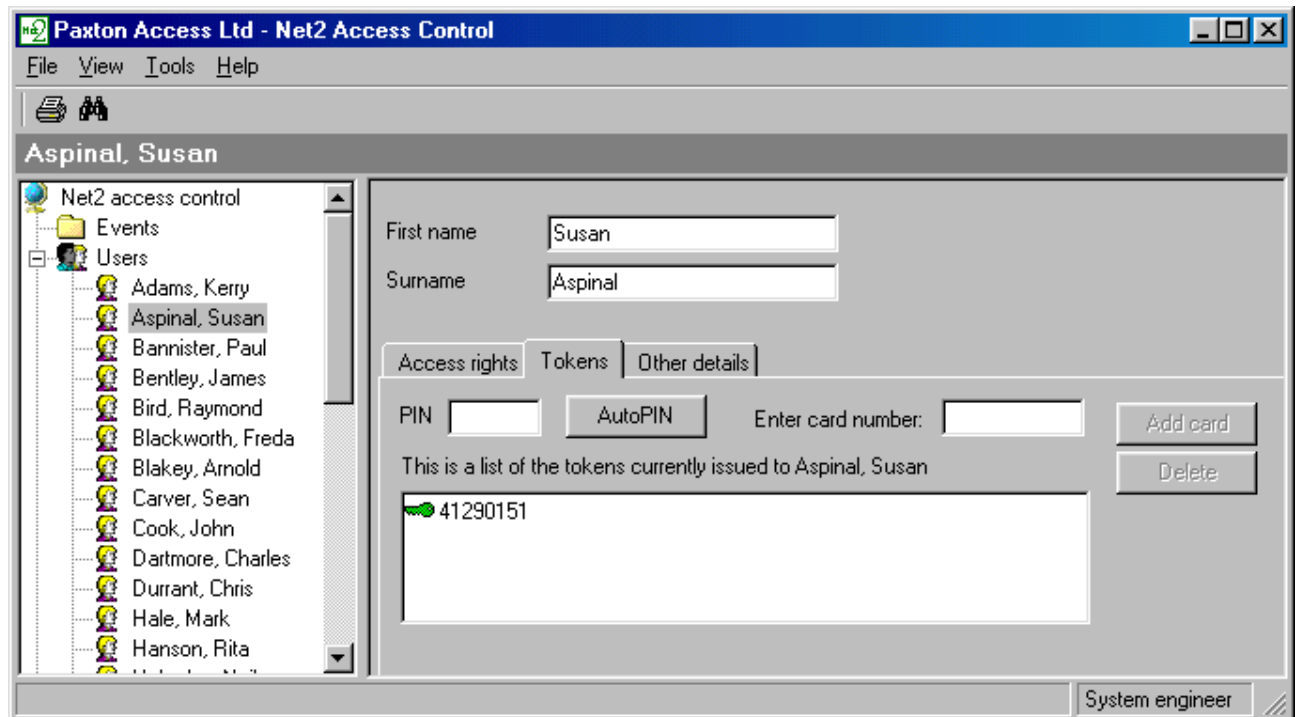

Figure 4.16
2. Select the Tokens tab to display the token screen in the main display, see figure 4.16.